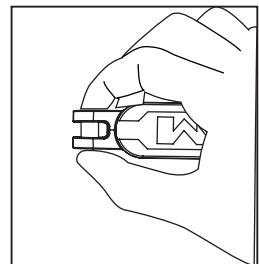

Fig. 5
3. Align the middle handle bars (5) with the upper handle bar (4). Guide the cable over the upper handle. Secure them with a mounting set (15) on each side (Fig. 5,6,7,8)